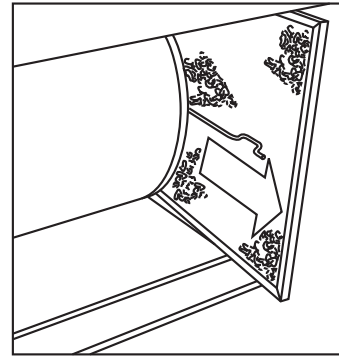

Fig. 26 - Removing Air Filter
- (2.) Gently remove air filter and carefully turn the dirty side up (if dirty) to avoid spilling dirt from the filter. (See Fig. 26.)